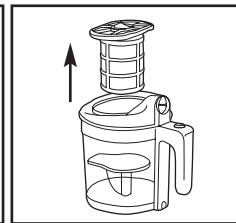

Fig.6
5. To remove the central filter [23] from the dust container, lift out (Fig.6).